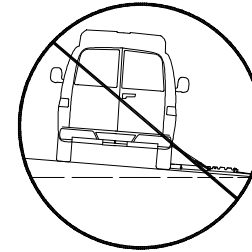

FIGURE 3-1: DO NOT USE STEP-LIFT WHEN VEHICLE IS ON SLOPED GROUND.
- Refer to **Figure 3-1**. It is dangerous to use the step-lift when the vehicle is on sloped ground or a steeply crowned road. Always attempt to park vehicle on a level, or near level, surface before using step-lift.